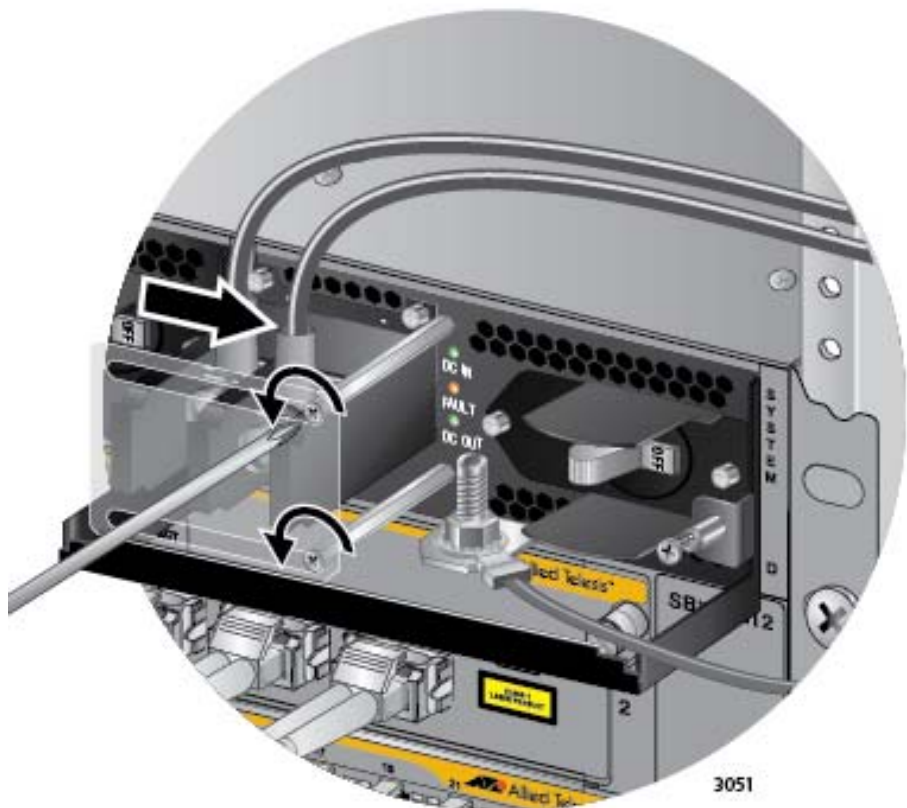

Figure 168. Opening the Plastic Window over the Terminal Block
4. Use a #1 screwdriver to loosen the two screws that secure the plastic cover over the terminal block and slide the cover to the right. You may need to slightly lift the locking handle to access the bottom screw. Refer to Figure 168.